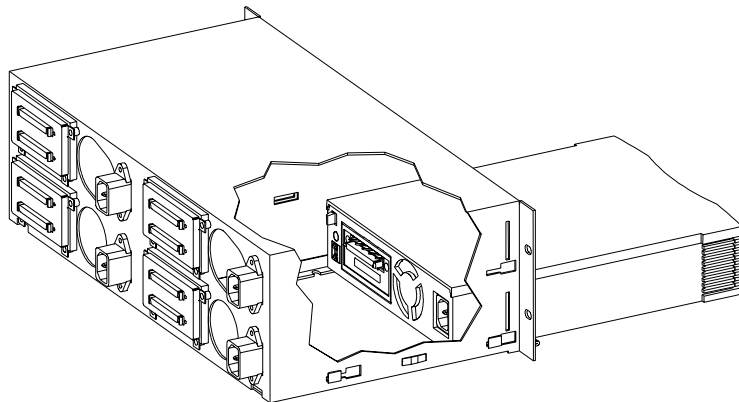

Figure B-1 C4318B 3U 4-Bay Rack Enclosure
2. These rack enclosures include blind-mate, easy plug connectors providing easy installation and removal of Rack-Ready Modules. See Figure B-1.